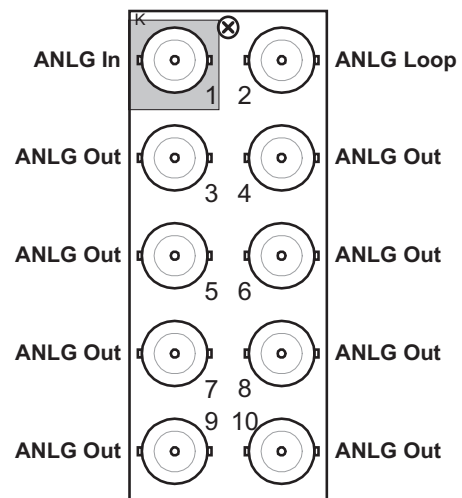

Figure 2.3 Cable Connections for the 8310AR-032 and 8320AR-032 Rear Modules
- **8310AR-032** Rear Module — Each card occupies one slot and provides eight outputs, and one looping output. (**Figure 2.3**)
- **8320AR-032** Full Rear Module — Each card occupies two slots and provides one analog input, one looping output, and eight analog outputs. (**Figure 2.3**)